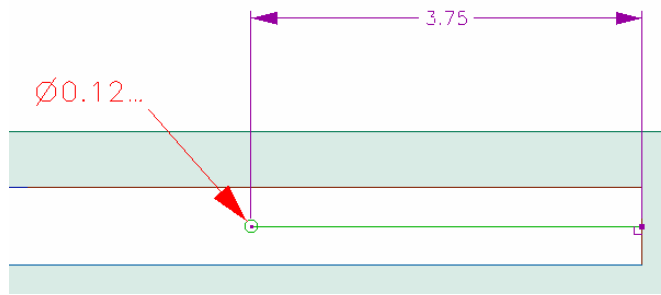

Figure 10. Placing right mounting hole.
16. Layout and place a 1/8" D (0.125) hole on the right as in figure 10.